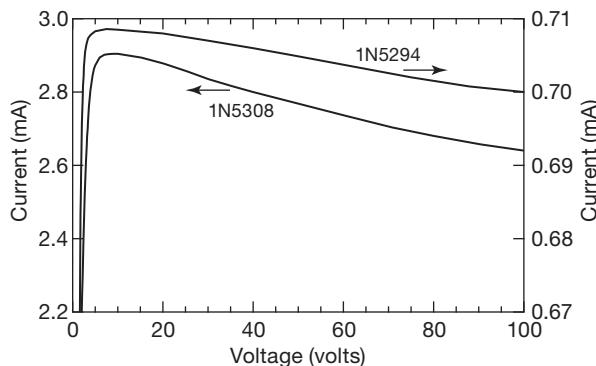

Figure 9.38. Measured current versus voltage for two members of the 1N5283 “current-regulator diode” (a JFET, actually) series.
- (a) the humble JFET “current-regulator diode” (§3.2.2), which makes a simple 2-terminal current source (Figure 9.36C) that operates nicely up to 100 V (we plotted measured current versus voltage in Figure 9.38);